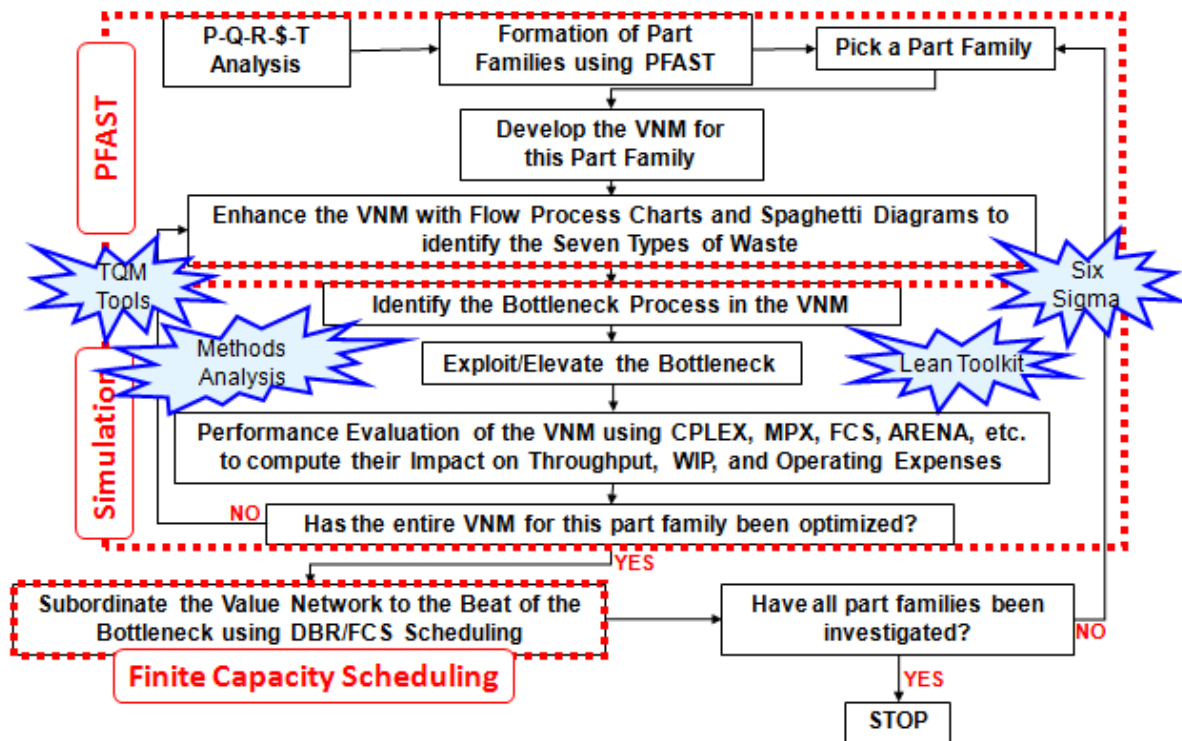

Figure 1 Comprehensive Approach for Implementing JobshopLean
Figure 1 gives an overview of a comprehensive approach that is followed for implementing JobshopLean in any high-mix low-volume discrete manufacturing facility, such as machine shops, forge shops, fabrication shops, mold shops, etc. At the core of this iterative approach is the expectation that a job shop (i) will utilize Production Flow Analysis and/or Group Technology to identify the stable part families in its product mix, (ii) will produce each part family that has a stable demand in a FLean (Flexible+Lean) manufacturing cell and (iii) utilize Finite Capacity Scheduling to schedule each cell on a daily shift-by-shift basis. *In theory*, every time that one loop of the process shown in Figure 1 is completed, it will result in the implementation of a stand-alone FLean manufacturing cell dedicated to producing a family of parts whose manufacturing requirements are completely satisfied by the cell, except for in-house support services like Maintenance or Tool Room and (external) vendor operations that simply could not be absorbed into the cell. *In reality*, numerous constraints may need to be broken to the extent that is possible. For example, it **is** possible to train operators to run different machines in a cell and to offer group incentives to those who work in a cell so they begin to work as a team to achieve metrics like on-time delivery and first-time quality rather than machine utilization or labor efficiency. However, it **is not** possible to incorporate a heat treatment furnace inside a cell next to a CNC (Computer Numerical Control) grinder. Typically, after several iterations of the process in Figure 1, a job shop will get divided into at least two areas: (1) One area consisting of several FLean manufacturing cells with each cell dedicated to a product family and (2) The other area being a “remainder job shop” that produces the parts in the product mix that are produced in small quantities, have low value and are ordered infrequently (aka “cats and dogs”), such as spare parts, prototypes for emergent business and one-off orders. By dividing the job shop into these two areas, (1) The FLean cells provide unquestionable quick response, high quality, team work and other benefits that are guaranteed by manufacturing cells and (2) Only a smaller non-cellular portion of the entire facility will continue to operate as a complex job shop which is always a challenge to schedule and control.
Per the methodology for implementing JobshopLean outlined in Figure 1, if a cell can be implemented so all value-adding operations to produce its part family are performed inside it, then its operations can be scheduled using a Finite Capacity Scheduler running on a stand-alone desktop in the cell. Having implemented a new layout for the Manual Packings Cell (MPC) in the Houston, TX, facility of Hoerbiger Corporation of America, the next step was to schedule daily operations in the cell. Depending on the complexity of the part family and the fluctuations in demand for the parts produced in the cell, a manual/visual system for scheduling the cell may have sufficed. One of our own cells, the Quick Response Cell (QRC), used a manual scheduling board that was populated with orders by an office manager based on his estimates of work load and available cell capacity. But I did not wish to schedule the MPC cell using ad-hoc manual cell scheduling methods. Because, if future cells had to share resources with this cell, then the schedules of those cells (and outside vendors too) would have to be coordinated with this cell's schedule.
in Figure 1, we undertook an exploratory proof-of-concept project to demonstrate the following operational scenario for the cell: